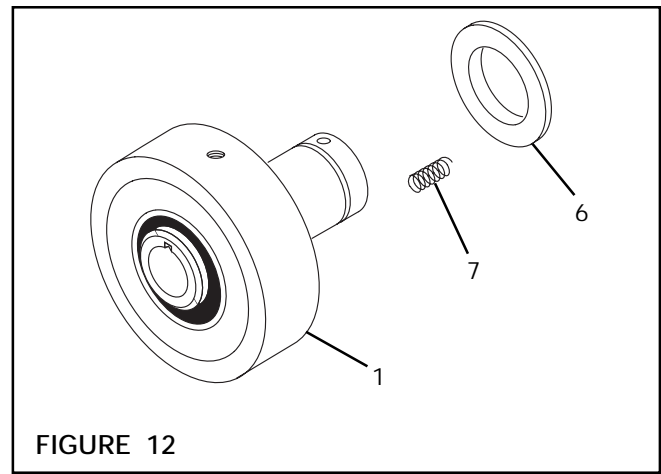

FIGURE 12
6. Install new Compression Springs (Item 7) into Drive Ring spring holes (See Figure 12).
8. Apply Loctite® 680 to inside diameter of Backing Plate (Item 6) (See Figure 12).
9. Making sure that 1/32" lip is facing away from Compression Springs (Item 7), slide Backing Plate (Item 6) onto Hub (Item 1) (See Figure 12).